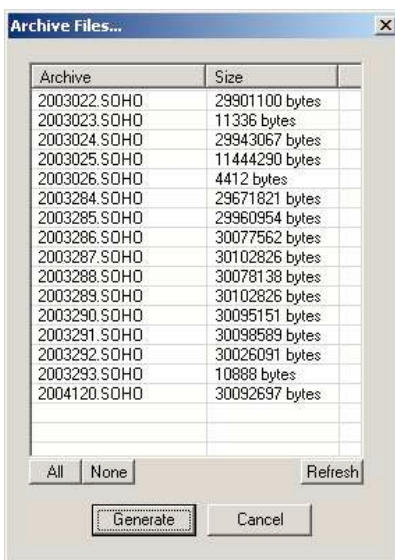

Figure 118: Archive File Selection Window
- Select the days for which to regenerate the IDQ data from the Archive File selection window (*Figure 118*).